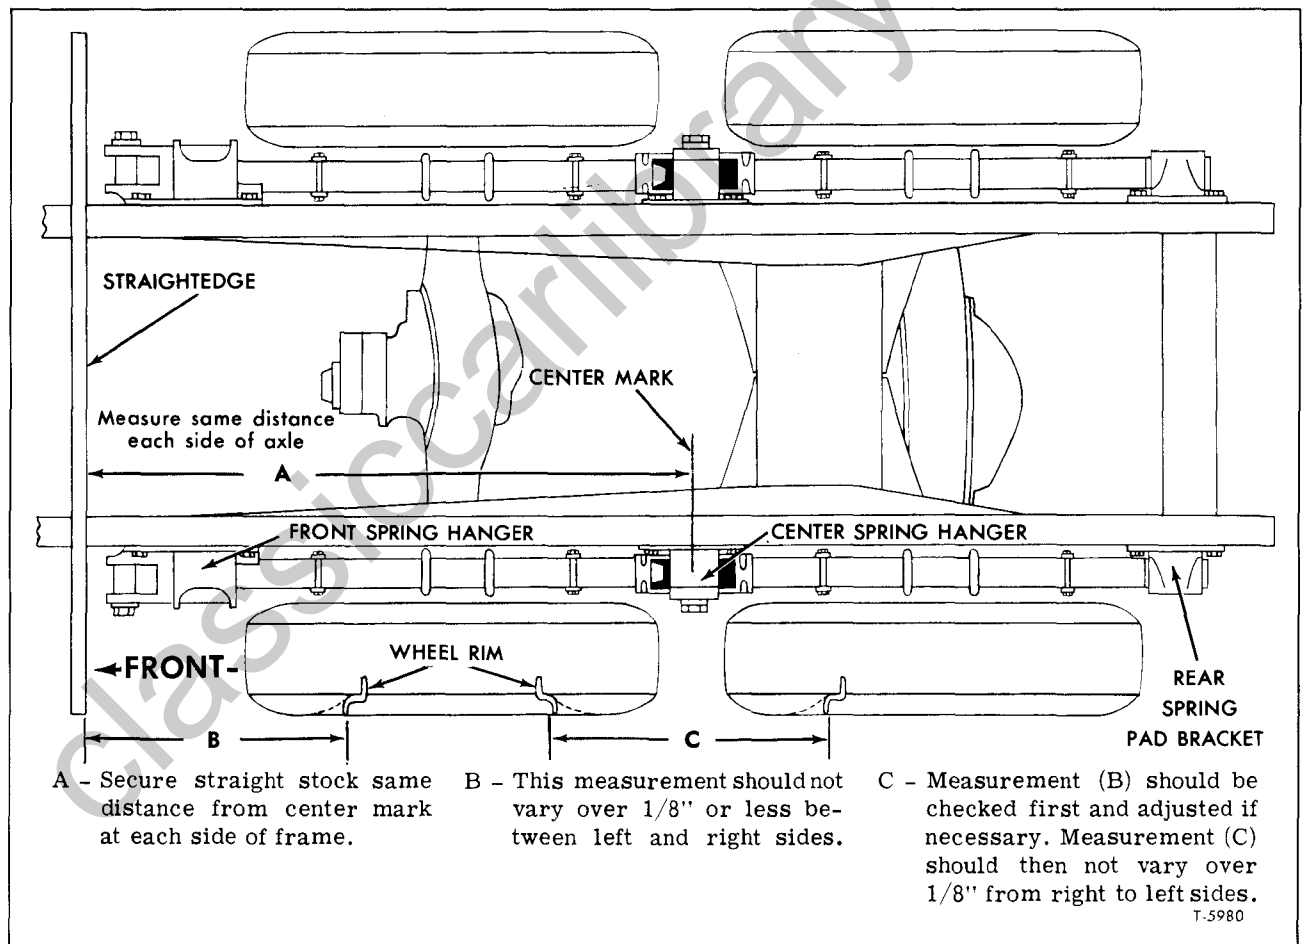

Figure 22—Reyco Tandem Alignment Chart
adjust, and ensure that both axles are correctly aligned with frame, and that they are parallel with each other: (Refer to fig. 22.)
2. Secure piece of bar stock, angle iron, or other suitable material approximately 96 inches long. Inspect material for straightness. Material should be long enough to extend from outside edge of one outside dual tire, to similar point on opposite outside dual tire as shown in figure 22.